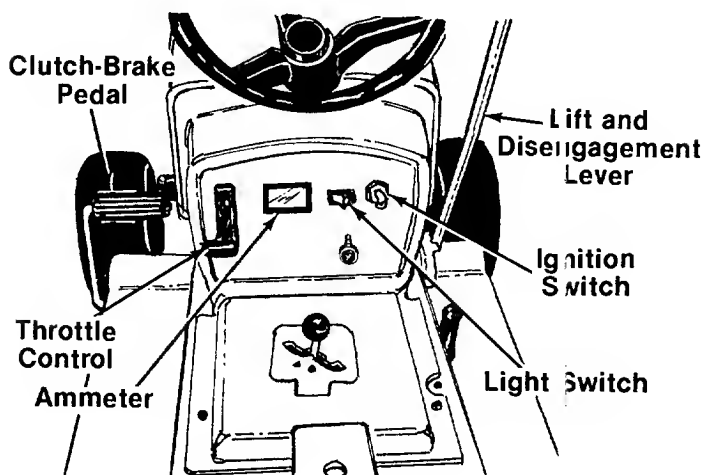

FIGURE 14.—Models 704 and 714 Shown
The throttle control is used to regulate the engine speed and to activate the choke on the engine. To get maximum efficiency from cutting, the throttle should be in the FAST position when operating the mower. Pushing the throttle all the way forward past FAST, will choke the engine. See figure 14.
The choke control is located on the dashboard and is operated manually. Details for the choke operation are covered in the separate engine manual packed with your unit. See figure 14.
The shift lever is located on the left side of the console and has three positions, "FORWARD," "NEUTRAL" and "REVERSE." See figure 14. The clutch-brake pedal must be depressed and the lawn tractor must not be moving when shifting gears. Do not force the shift lever. Release the clutch-brake pedal slightly to line up the shifting collar in the transmission. Then try to shift gears.
Turn the key to the "START" position to start the engine. When the engine is running, let the key return to the "ON" position. To stop the engine, turn the key to the left to the "OFF" position and remove it to prevent accidental starting. See figure 14.
Push the light switch to turn on the lights. The lights will only operate when the engine is running. See figure 14.
The ammeter registers the rate of battery charge or discharge. The ammeter will register on the discharging side when starting the engine. It should register on the opposite side (charging) when the engine is running in the fast position until the battery is completely charged. With a fully charged battery or with the engine idling, the ammeter will not show a charge. See figure 14.
The clutch-brake pedal is located on the left side of the lawn tractor. Depressing the clutch-brake pedal part way disengages the clutch. Pressing the pedal all the way down disengages the clutch and engages the disc brake. See figure 14.
4. Set the throttle control in the "CHOKE" position. See figure 14.
5. Turn the ignition key to the "START" position. When the engine is running, let the key return to the "ON" position. See figure 14.